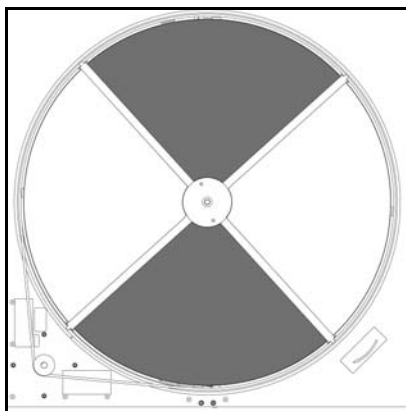

Figure 15 Remove or install opposing segments to minimize wheel imbalance.
An uneven number of segments in the wheel will cause the wheel to accelerate in rotation. Minimize wheel imbalance and unwanted rotation during service by installing or removing opposing segments for even weight distribution, Figure 15. Failure to maintain control of the wheel rotation while removing or installing segments could cause severe injury to fingers or hands.
- 3 Position first segment to be removed at the top of the wheel, Figure 15.